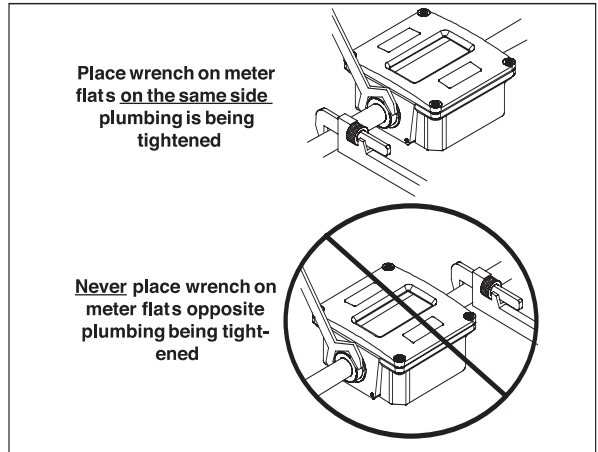

Figure 4. Installing Meter
2. See Figure 4. Select a mounting location that is suitable for viewing and product service. To connect the flow meter into the piping system, place an open-ended wrench onto the flow meter wrench flats adjacent to the pipe connection being installed. **DO NOT** wrench on the opposite end of the flow meter or leakage may result.